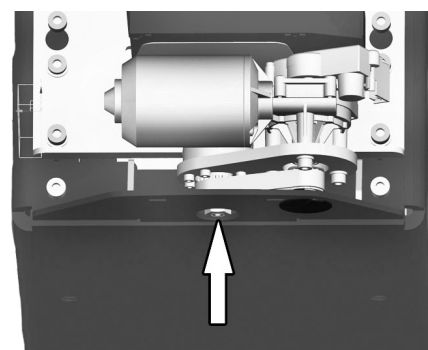

Figure 200. Remove the protective rubber cover underneath the chassis to get access to the seat elevator axle.
3. Use the supplied spanner to manually adjust the angle of the seat elevator i.e. rotate the seat elevator axle. It is accessed through the hole in the bottom of the chassis. See fig. 200.